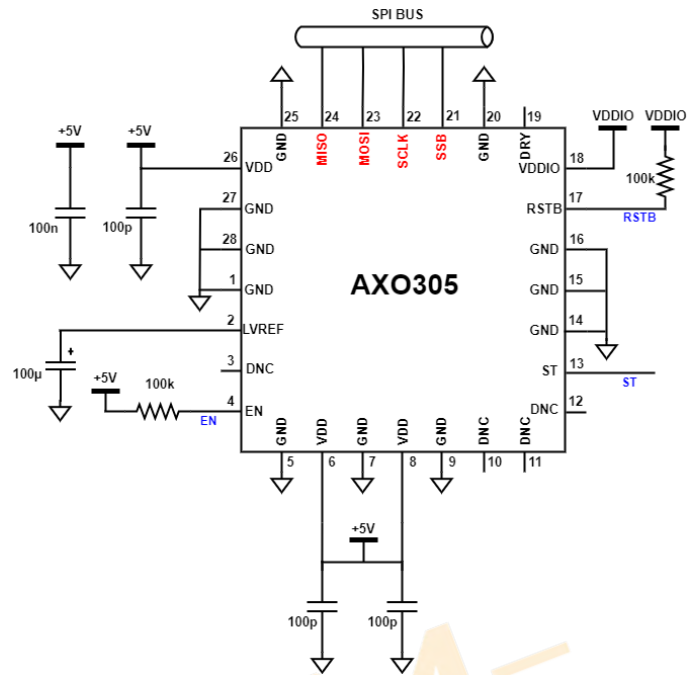

Figure 15: Recommended Application Schematic
- All capacitances of Figure 15 should be placed as close as possible to their corresponding pins, except the 100nF capacitance between VDD and GND, which should be as close as possible to the board's supply input.